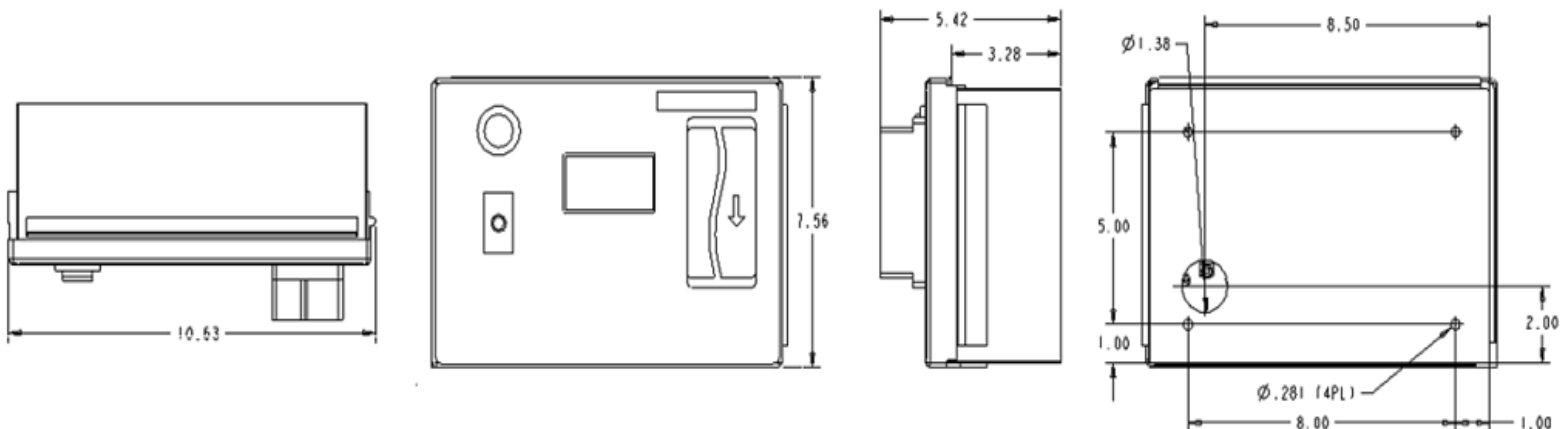

Figure 1. WashPay Card Terminal Dimensions
2. Using the Card Terminal dimensions shown in Figure 1, determine where to mount the Card Terminal. Make sure the mounting location is a solid surface
3. Mount the Card Terminal by either attaching it to the wall surface or recess-mounting it into a pre-cut hole (determined by the dimensions in Figure 1).